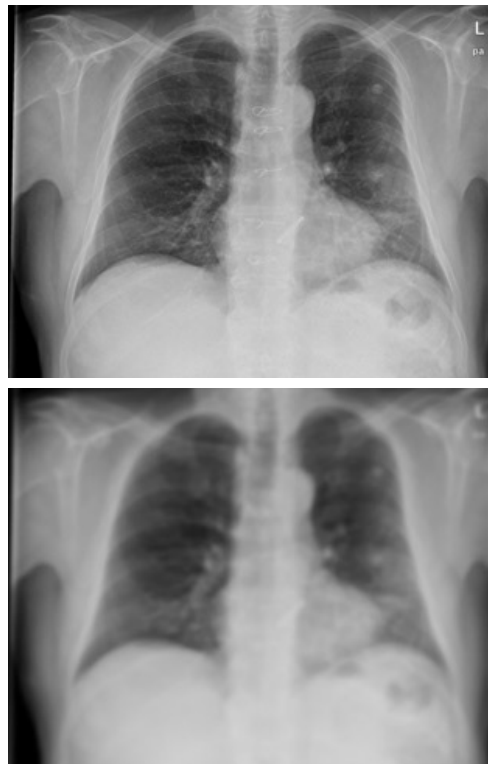

FIGURE 30
- / The spatial resolution of an image **quantifies the sharpness of the signal in the image** (Fig. 30).